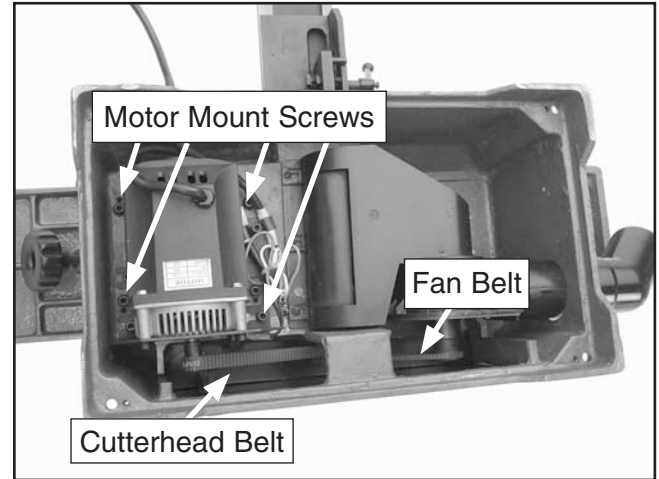

Figure 46. Motor mounting screws and belt locations.
6. Loosen the four motor mounting cap screws (see **Figure 46**), but do not remove them. This will release the belt tension.